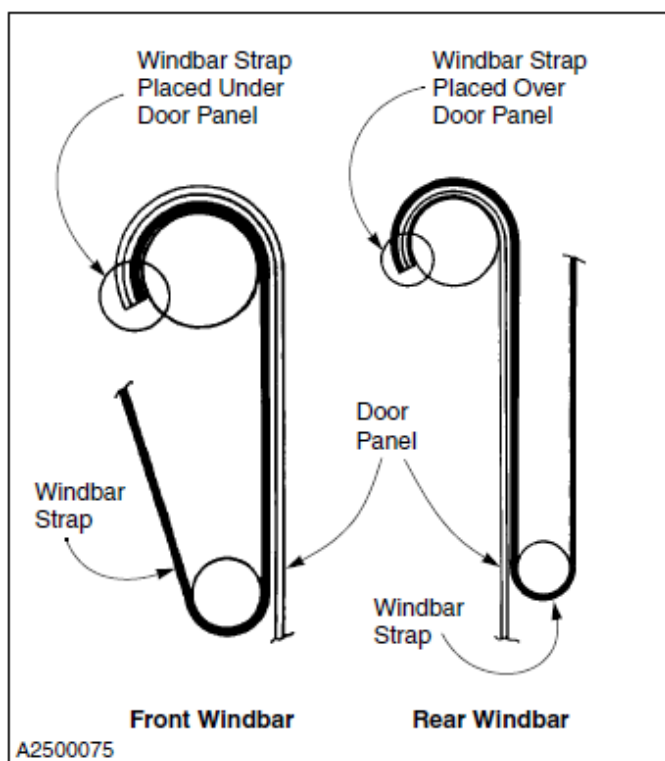

Figure 67
5. Route the windbar strap for a front and rear windbar as shown in Figure 67.